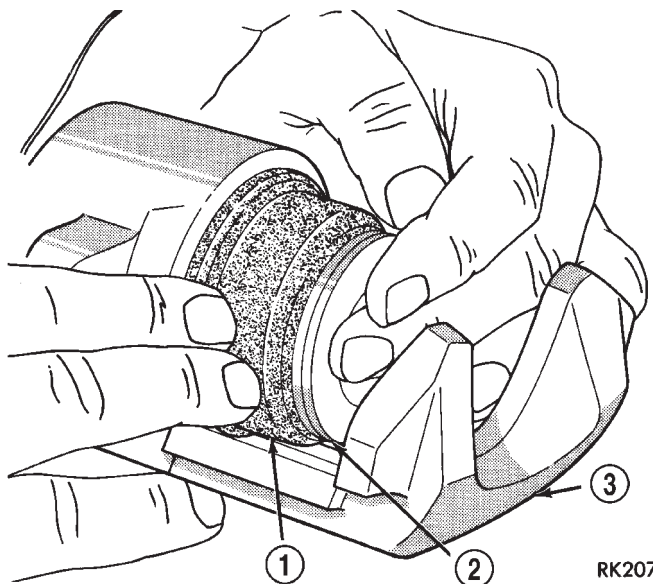

Fig. 169 Installing Piston Into Caliper Bore
(4) Install piston into caliper bore pushing it past the piston seal until it bottoms in the caliper bore (Fig. 169).
(5) Position the dust boot into the counterbore of the caliper assembly piston bore.